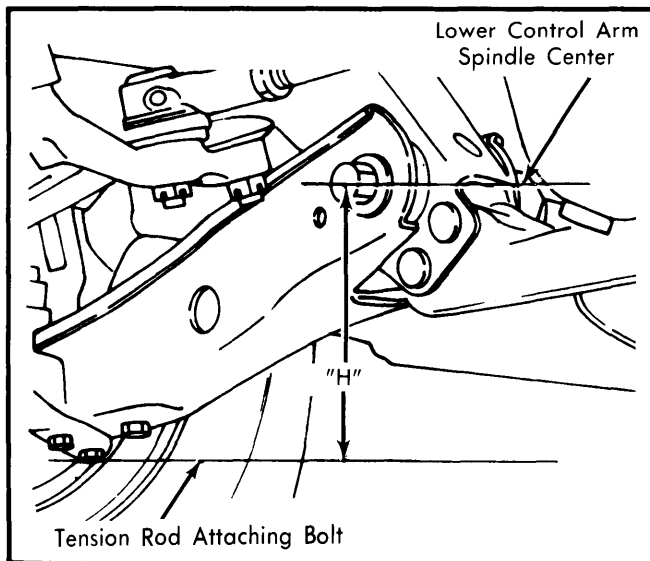

Fig. 3 View Showing Dimension "H" (Unladen Vehicle)
- 4) On all models, lower vehicle and turn anchor arm adjusting nut to obtain specified "H" dimension with vehicle unladen. See Fig. 3.
6) Install tire and wheel, lower vehicle and check height "H" of lower control arm. See Fig. 3. Check and adjust wheel alignment. See appropriate article in WHEEL ALIGNMENT section.
Installation — To install, reverse removal procedure, tightening nuts and bolts to specifications. Be sure grease does not contact tapered area of ball joint stud or knuckle hole and does not contact ball joint threads. Turn anchor bolt adjusting nut to obtain specified "H" dimension. See Fig. 3. Check and adjust wheel alignment. See appropriate article in *WHEEL ALIGNMENT* section.